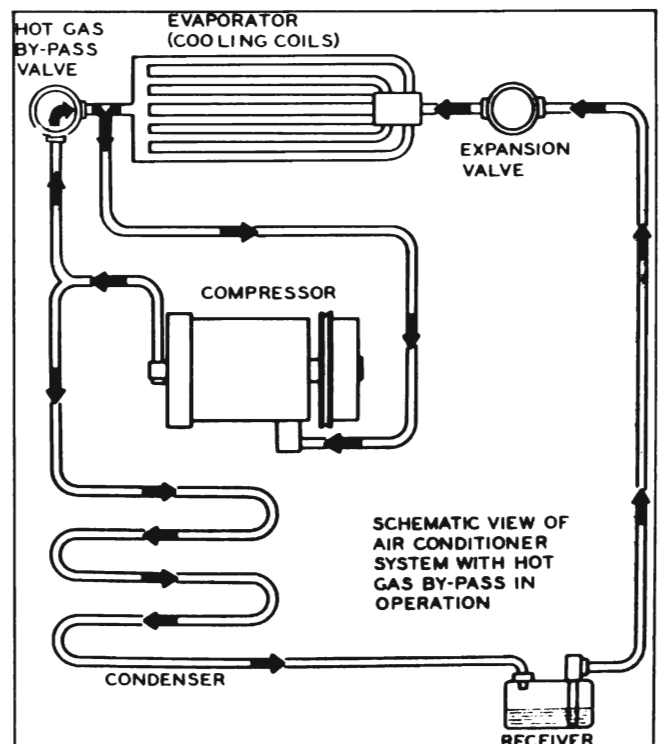

Figure 11-19—Air Conditioning System—Schematic
6. Hot Gas By-pass Valve. Figure 11-19 is a schematic view of the operating refrigeration cycle using the hot gas by-pass valve and showing this valve's relative position in the system.